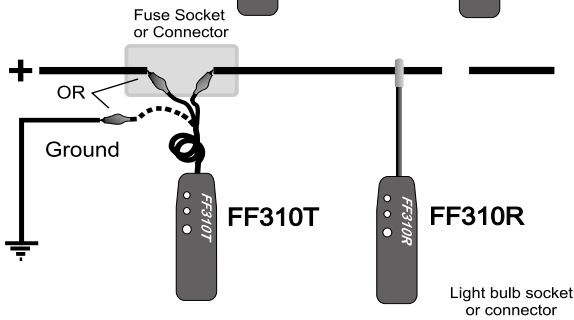

Fig.4 - Set up for tracing open circuits or identification of wires
- **Tracing wires upstream** (from load to supply): If more convenient, wires can also be traced the other way around, by replacing the load with the FF310T (Fig. 4 of Hook Up reference chart). To do this, first remove power from the circuit, disconnect load and connect the FF310T in its place. Apply power to the circuit and follow instructions in section **6 – Locating Short Circuits**.